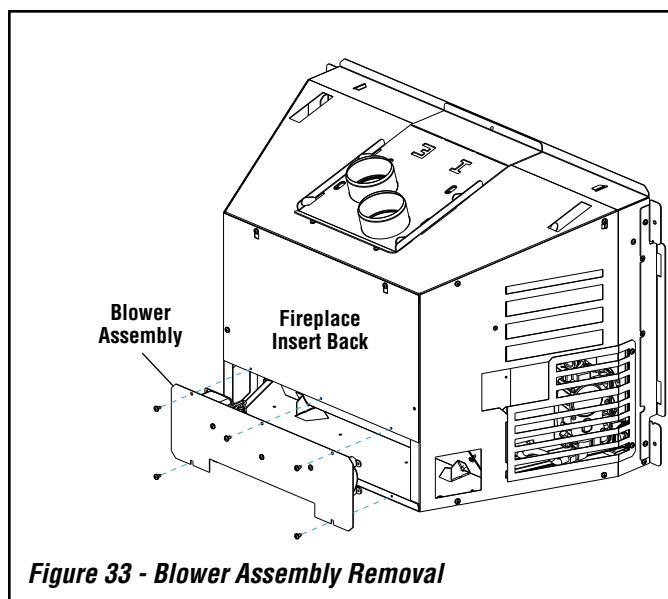

Figure 33 - Blower Assembly Removal
2. Remove five phillips screws holding fan assembly in place and carefully move assembly out of the way, exposing appliance wiring (see **Figure 33**).